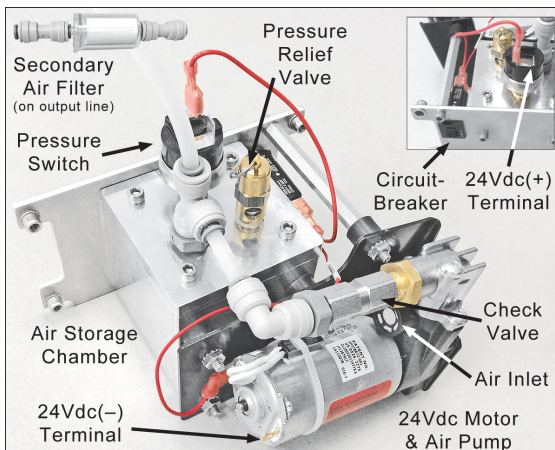

Figure 2 - Air Compressor Pressure Relief Valve
- 3) With power off, pull the relief valve ring (Fig. 2) to depressurize the air storage chamber.